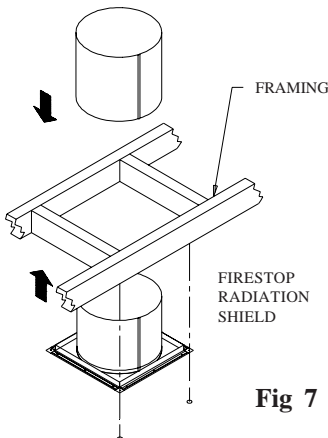

Fig 7
portion of the shield pointing upward (Fig 7). Use a minimum of either (1) 8 penny nail or (1) 1-1/4" wood screws per corner. Refer to Table 2 for framing requirements.